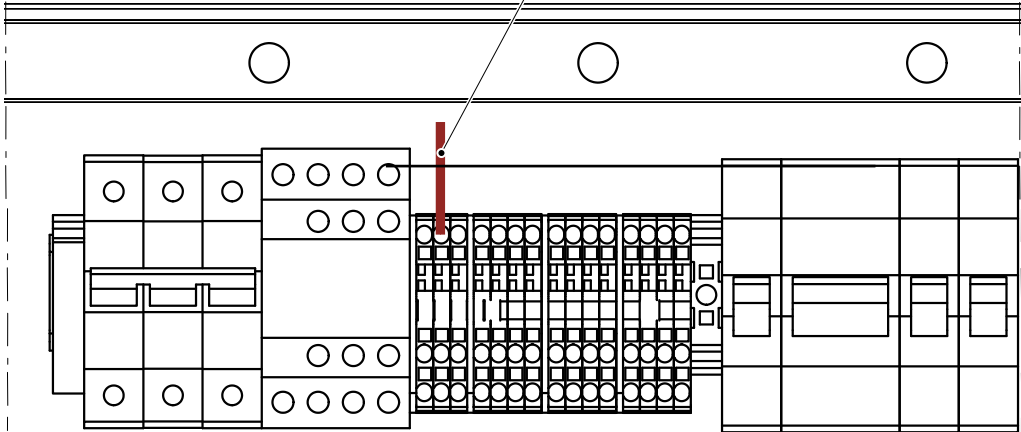

Fig. 5-76
Make sure the wire (A) is connected according to Fig. 5-76 .